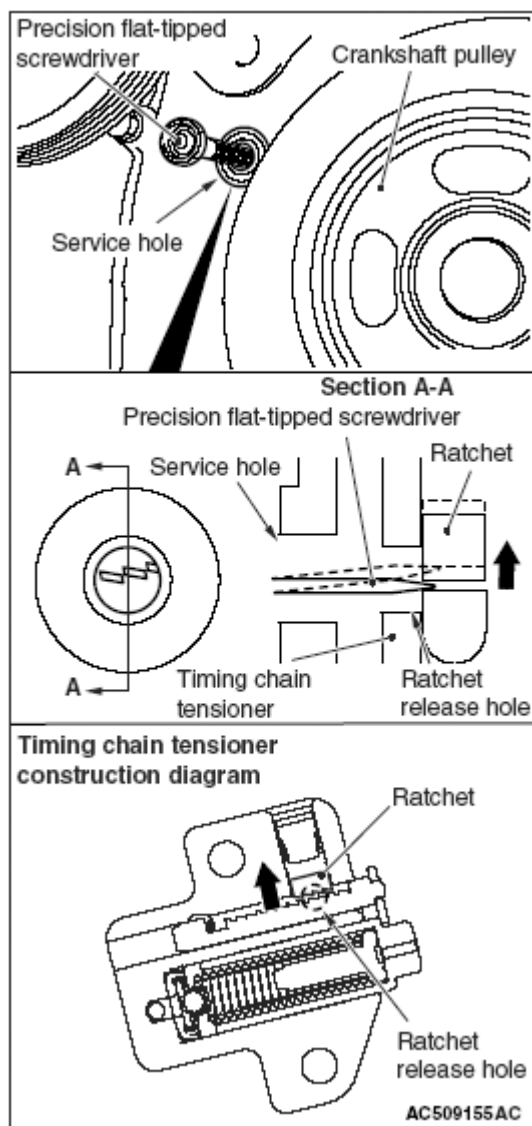

Fig. 46: Unlocking Timing Chain Tensioner Using Precision Flat-Tipped Screwdriver
3. With the timing chain tensioner unlocked, insert special tool MB992103 inside the timing chain case assembly along the tension side of the timing chain until the insertion guide line aligns with the upper surface of the timing chain case assembly (**Fig. 46**).